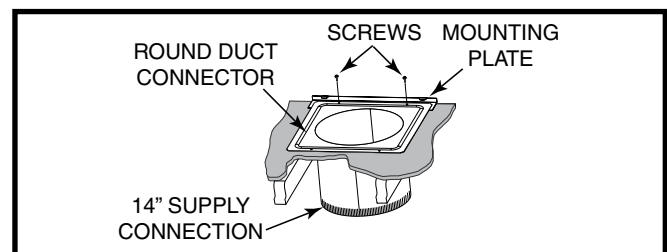

Figure 13. Round Duct Connector Installed
- Make sure alcove openings are cut to dimensions shown in Figure 13 \(page 11\).
- Make sure alcove openings are cut to the dimensions shown in Figure 13, plus the height of the upflow stand Figure 21 \(page 17\).
- Install the mounting plate under the back side of the duct connector. See Figure 13. **NOTE:** Align the screw holes in both components.